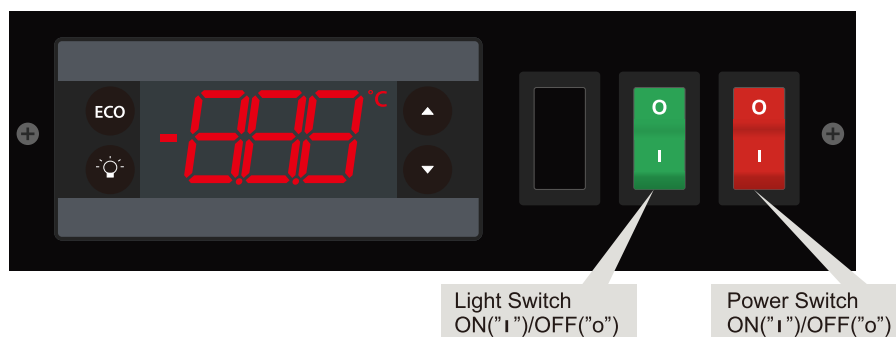

Figure 3: The control Panel
- Switch on the red power switch on the control panel of the appliance as indicated in Figure 3 below. There will be a short delay before the compressor motor starts up.
- Step 1: Empty the appliance. Switch it off using the red power switch on the control panel (See Figure 3). Pull out the appliance from its enclosure and unplug from the mains power supply.